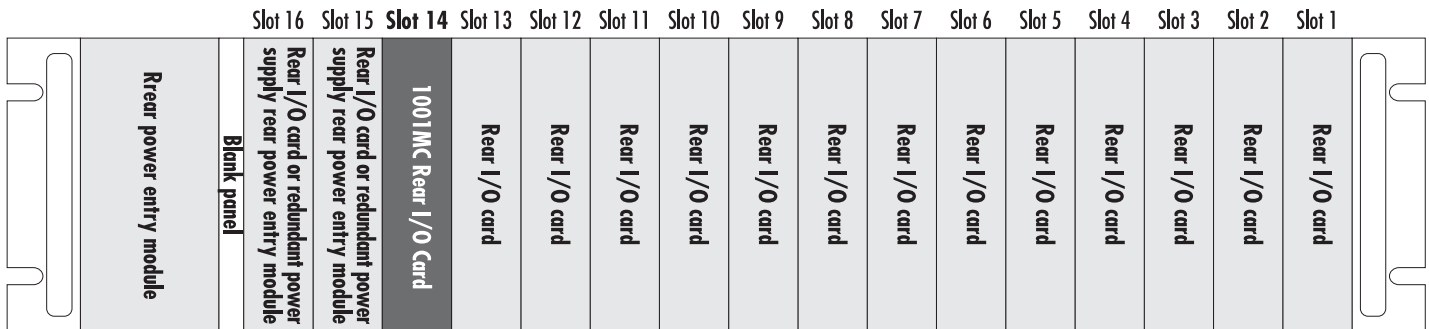

Figure 5. Rack chassis slot layout (rear view)
**There are no user-serviceable parts in the power supply section. Voltage setting changes and fuse replacement should only be performed by qualified service personnel. Contact Patton Electronics Technical support at (301) 975-1007 for more information.**
1. Slide the rear I/O card into rear chassis slot 14 (see figure 5) along the metal guide rails.